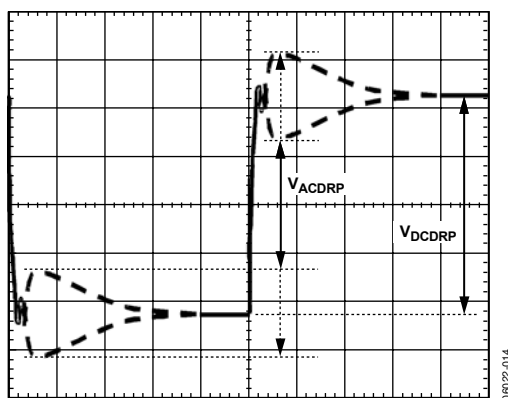

Figure 14. AC Load Line Waveform
- Measure the output waveform (if not visible, use dc offset on scope to view). Try to use a vertical scale of 100 mV/div or finer. This waveform should look similar to Figure 14.
- Use the horizontal cursors to measure V_{ACDRP} and V_{DCDRP} , as shown in Figure 14. Do not measure the undershoot or overshoot that happens immediately after this step.